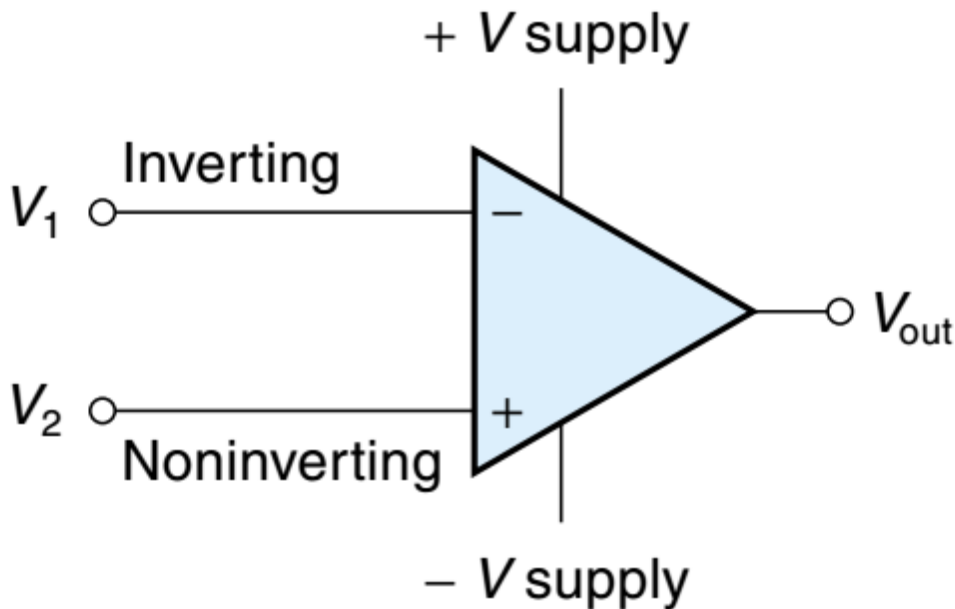

Figure 3-1 The op-amp symbol
Figure 3-1 shows the symbol for a typical op-amp. It has two inputs (V_1 and V_2) and one output (V_{out}). Also shown are the two power-supply inputs, which are typically $+12 \text{ V}$ and -12 V . The output voltage can swing to within about 80% of the supply voltages. Notice there is no ground connection at all. Most op-amps are actually differential amplifiers, which means they amplify the difference between V_1 and V_2 . This is shown in Equation 3.1:
The **open-loop gain** (A) is the raw unmodified gain of the op-amp; it is high, typically 100,000 or more. V_2 is called the **noninverting input**. As the name implies, *the output is in phase with the noninverting input* (when the noninverting input goes positive, V_{out} goes positive; when the noninverting input goes negative, V_{out} goes negative). The noninverting input is identified by the + sign in the symbol of Figure 3-1. The other input to the op-amp is called the **inverting input**. *The output will be out of phase with the signal at the inverting input* (when the inverting input goes more positive, the output will go more negative, and vice versa). The inverting input is identified by the – sign in the symbol. Even though the op-amp has two separate inputs, there is just one input voltage, which is the difference between V_2 and V_1 . This is illustrated in next example.